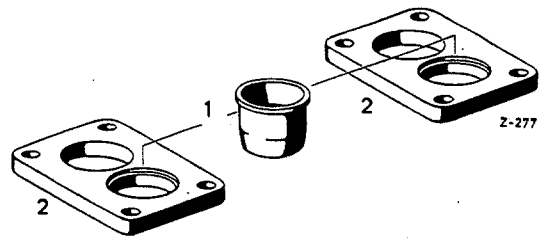

Fig. M 31 S/1
The air jet (1) in the upper insulation flange (2) must be on the manifold side of Stage 1 (Fig. M 31 S/1).